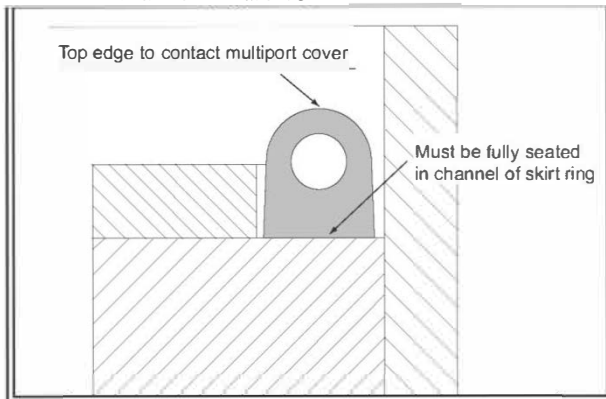

Figure 13: D-Ring Gasket Cross Section
- a. D-ring gasket is free of dirt and debris, the round edge is facing up, and it is fully seated in the skirt channel Figure 13